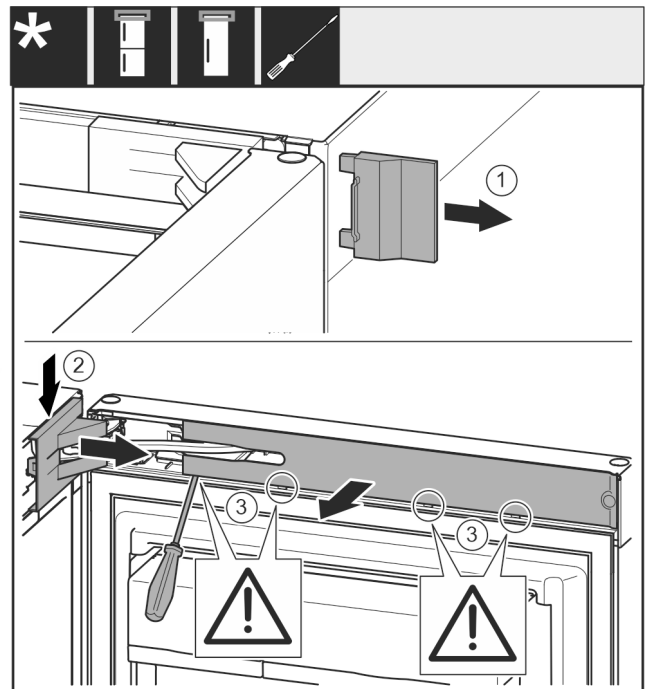

Fig. 9
► Remove cover *Fig. 9 (1)*.
- ▶ Disengage and loosen the swap bearing block cover Fig. 9 (2).
- ▶ Remove the swap bearing block cover Fig. 9 (2).
- ▶ Use a slotted screwdriver to unlatch the trim Fig. 9 (3) and swing it to the side.